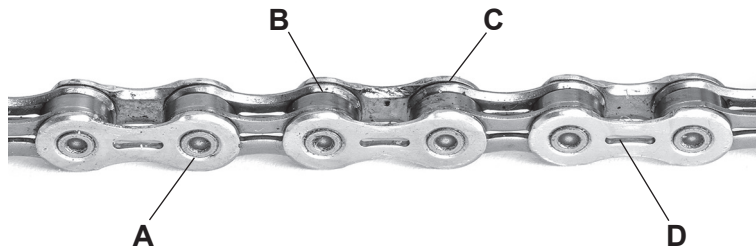

Fig. 11.1
- 11 (a) Fig. 11.1 shows a part of a bicycle chain with four positions identified.
- (i) Give the **two** positions on Fig. 11.1 where lubrication should be applied.